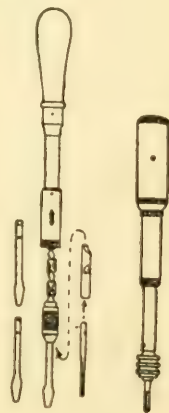

FIG. 27. Spiral-ratchet Screw-driver. FIG. 26. Auto-matic Drill.
**Spiral-ratchet Screw-driver** (Fig. 27).